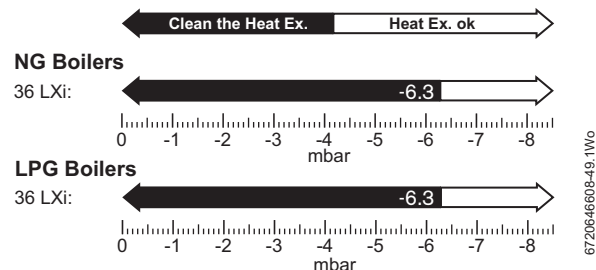

Fig. 77 Fan pressure readings
- ▶ The pressure will read negative, refer to the chart in figure 77 below.